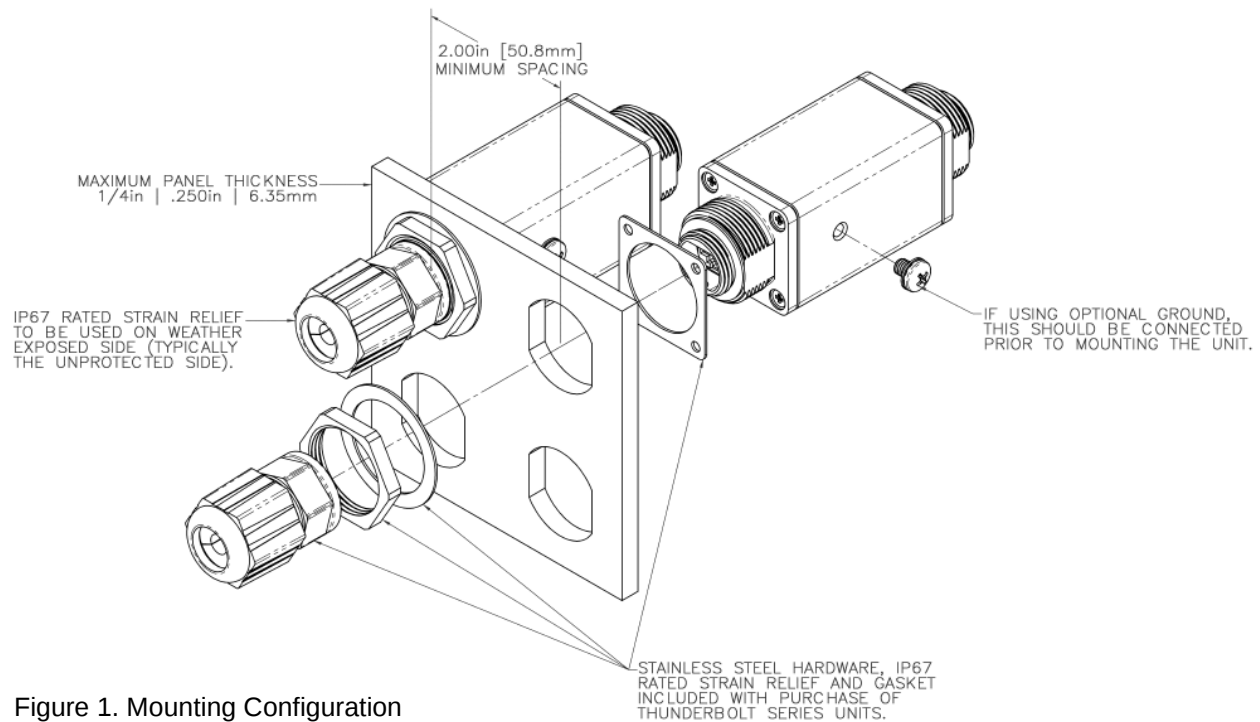
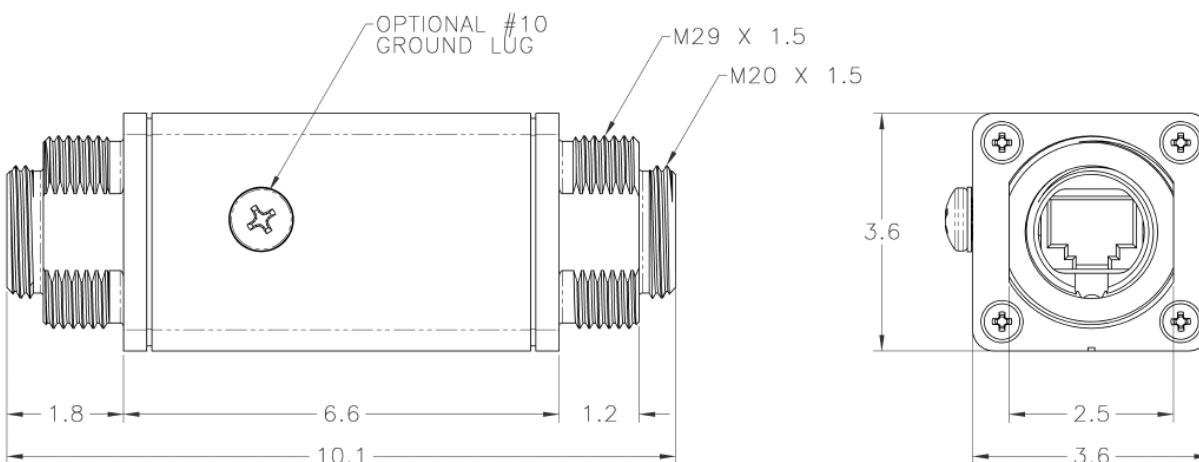

Figure 1. Mounting Configuration
Figure 2. Mechanical outline (cm)
The Thunderbolt series provides a #10 ground screw as well as a molded RJ-45 connector shroud with cable gland and mounting hardware as depicted in Figure 1.
5. **INSTALLATION:** The Thunderbolt is intended to be installed onto any grounded metal frame bulk head or bracket. The unit can be used with the thunder kit weather gasket or EMI gasket to achieve up to 60 dB isolation. Refer to figure 1 for mechanical dimensions and figure 2 for hardware accessories.
- 5.1. Install the Thunderbolt protector into the prescribed area. The Thunderbolt mounts through a 29mm hole in the bulkhead or enclosure. Be sure to orient the device with the “unprotected” side oriented out to the exposed wire direction (see Figure 1).
- 5.2. Attach an optional grounding conductor, 10awg minimum (not provided) between the ground lug on the Thunderbolt and the nearest Master Ground Bar connection. The grounding wires should be as short as possible (see Figure 2).